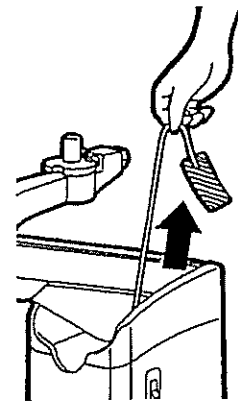

Fig.3-2 Red Tagged Oil Plug
- Pull out the red tag and remove the oil plug. (Fig.3-2)